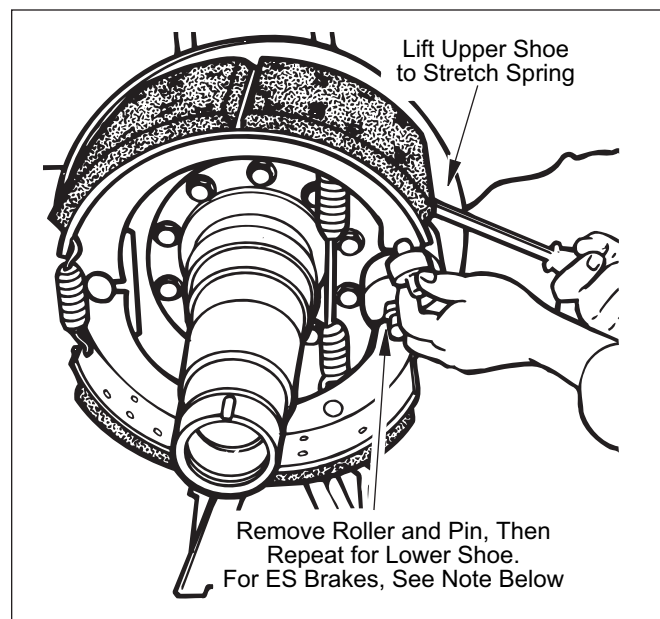

Figure 13. Upper Cam Roller and Pin Removal
3. Using a large screwdriver or lever, lift upper shoe to stretch return spring as shown in Figure 13.